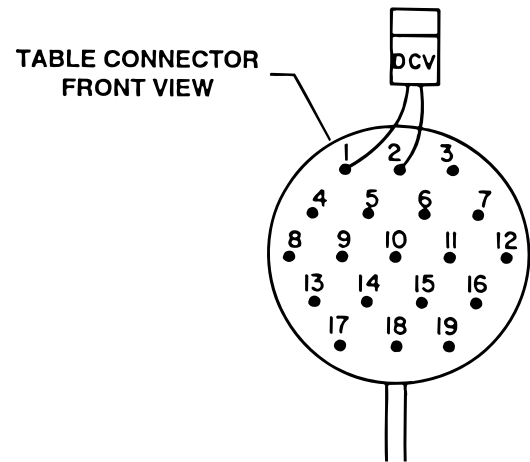

Figure 5-10. Front View Table Connector
- 3. Use a DC voltmeter 10V scale and measure the following pins located in the 19 pin table socket connector. See figure 5-10.